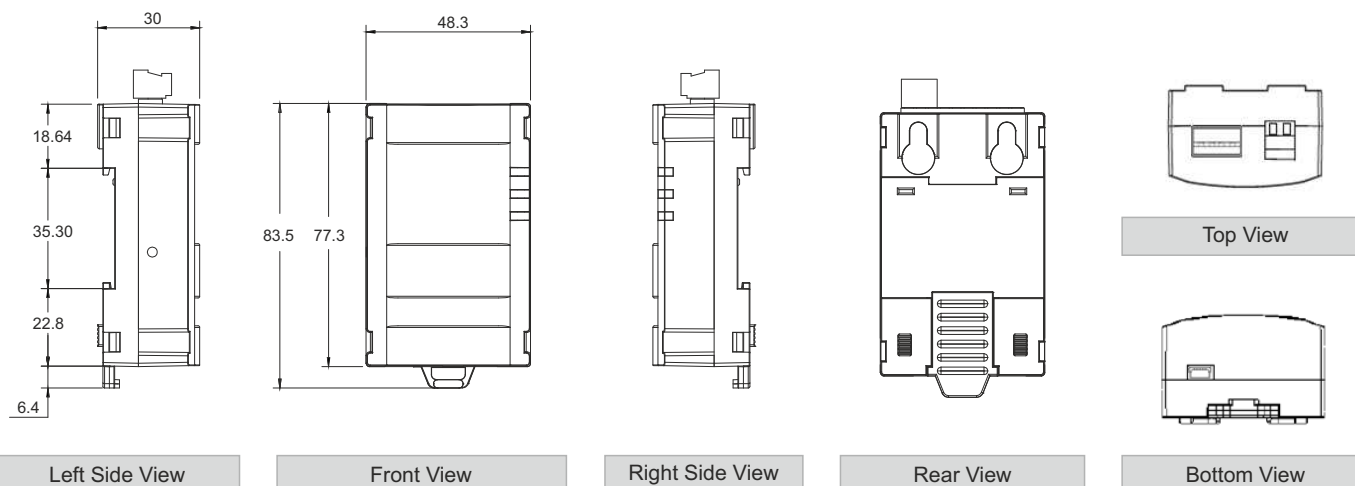

Fig 1
Dimensions (in mm) (See Fig1) 30.1(H) x 48.3(W) x 83.5(D)